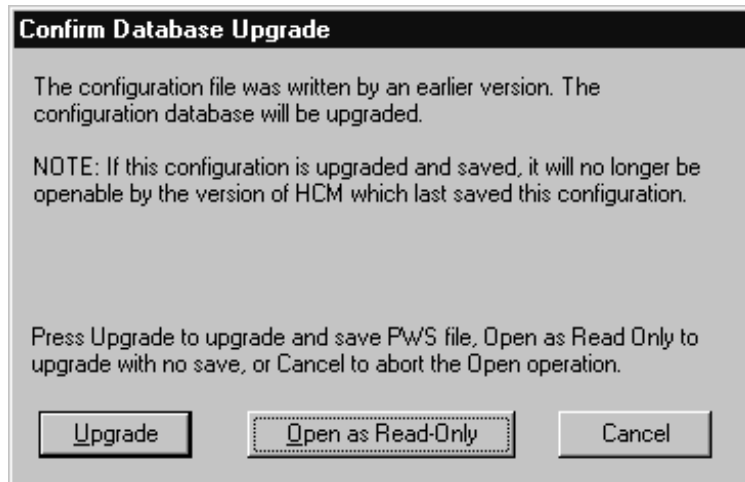

Figure 29. Confirm Database Upgrade
1. Open the pre-V1R7 configuration file (**File → Open**). HCM prompts you to either upgrade or open the file as read-only (Figure 29 on page 74). It is recommended to use the **read-only** option, because this choice keeps a backup of the original configuration file. Or you can load a pre-V1R7 IODF into a new or existing, pre-V1R7 configuration file (**File → IODF**). Depending on the size of the IODF, this process can take quite some time because HCD converts the loaded IODF data into the new version 5 format.